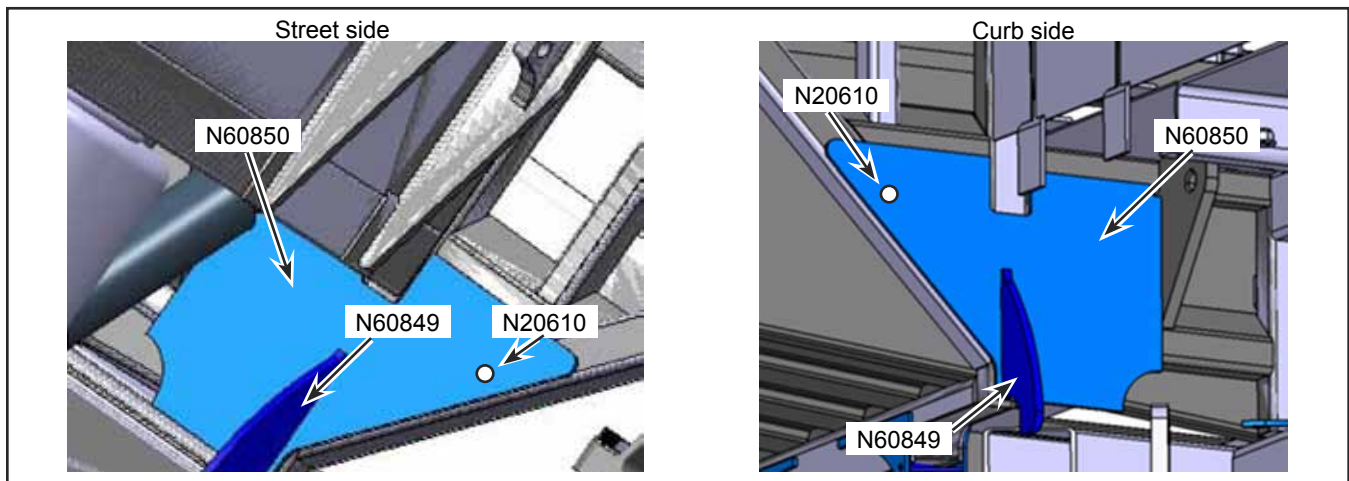

Figure 9 - Position of Plates in Zone 2
1.18. Weld the reinforcement plate N60850 and plate N60849 in zone 2. See Figure 9 for the position of the plates.